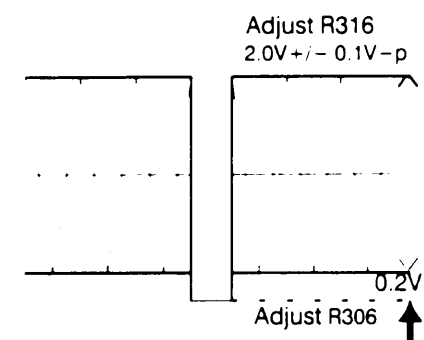

Fig 2.
- 2: Adjust the Sub contrast (R316) to set the drive voltage to 2.0V  $\pm$  0.1V-p. See Fig 2. on next page.